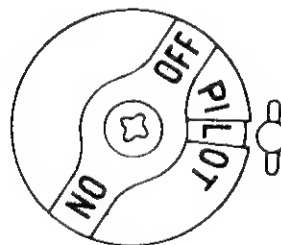

Fig. 1
- Turn the gas valve knob to the PILOT position. See Figure 1.
- Open fryer door(s) and turn gas valve knob(s) to the PILOT position. See Figure 1.